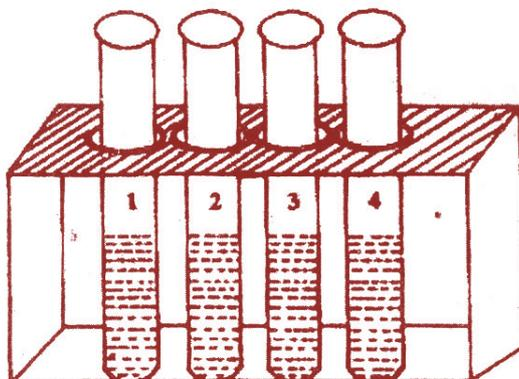

Fig. 3.1 : Study of activity of different metals
Take four test tubes and mark them (1), (2), (3), (4). Fill them half with 10% solution of a magnesium salt. Place them in the test tube stand as shown in Fig. 3.1